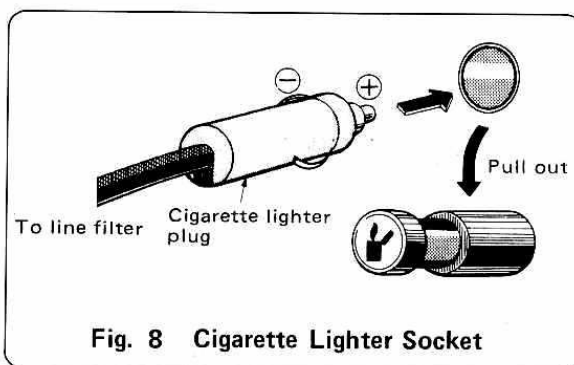

Fig. 8 Cigarette Lighter Socket
- ① For mobile station operation, the unit can be connected to a car battery (DC 13.8V) or accessory position on the fuse block. Make certain that the yellow lead is connected to the positive (+) post and the black lead to the negative (-) post. In this case, use a line filter between the unit and the battery to prevent noise generated from the power system. To supply the power from car battery, the unit may be connected to the cigarette lighter socket installed in the car (Fig. 8).